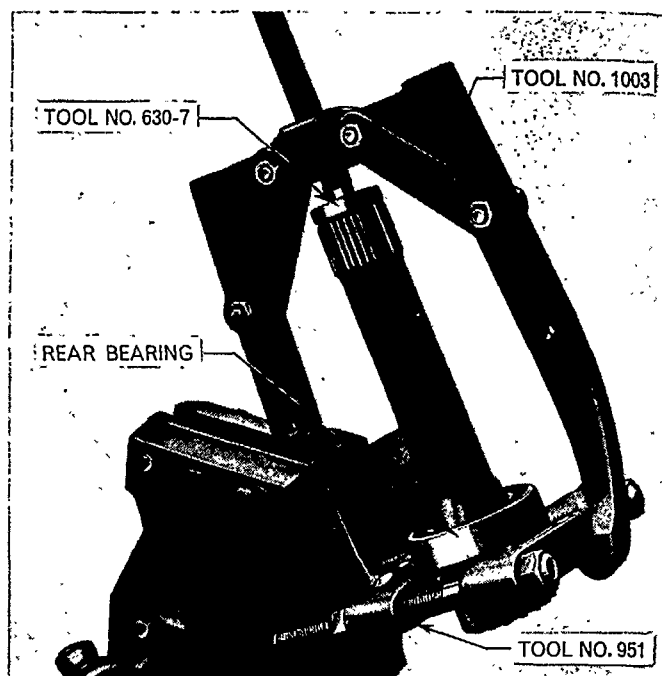

Figure 8
- d. Inspect the gear teeth and the oil seal journals on the Live P.T.O. input shaft for damage or excessive wear and check the rear bearing for wear or damage. If necessary, remove the snap ring from the shaft and withdraw the rear bearing using Tools Nos. 1003, 951 and 630-7, Figure 8.